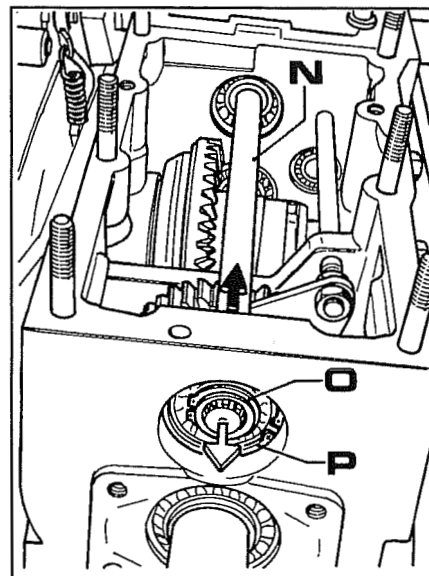
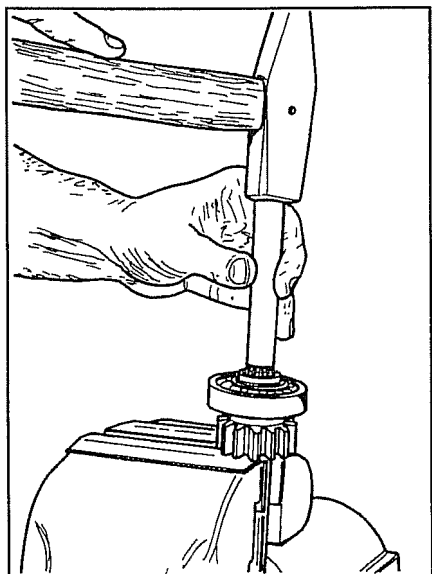
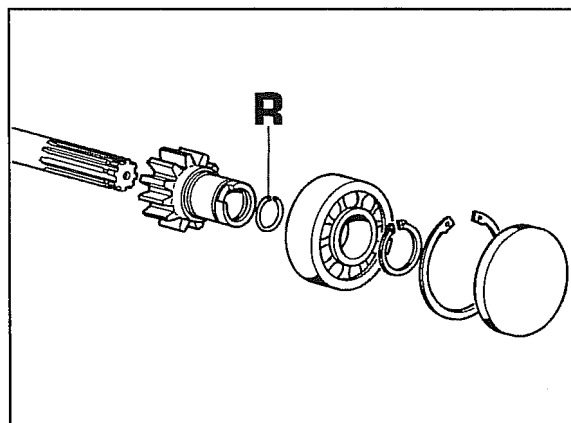

Fig. 12
Fig. 13
Fig. 14
2. With a 2000 Rpm PTO, slip shaft **N** Fig. 12 forward in the direction of the black arrow, remove snap ring **O** to remove the gear from the bearing.
With a 1000 Rpm PTO remove snap ring **P** Fig. 12.
Remove shaft **N** backwards (following the direction of the white arrow in Fig. 12) complete with bearing and gearwheel. Next separate the shaft from the gearwheel as shown in Fig. 13.
NB - When doing the operation illustrated in Fig. 13, you will see a split ring (**R** Fig. 14) between the shaft and the gearwheel. When the shaft is extracted, this split ring will open in its seating and allow the shaft to be removed.